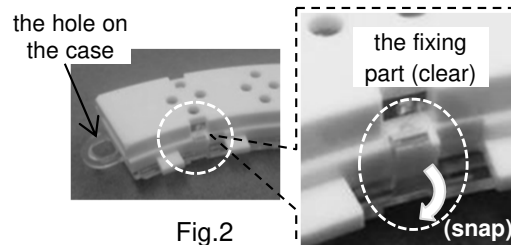

Fig.2
- Please snap the fixing part shown in Fig. 2 (one place).